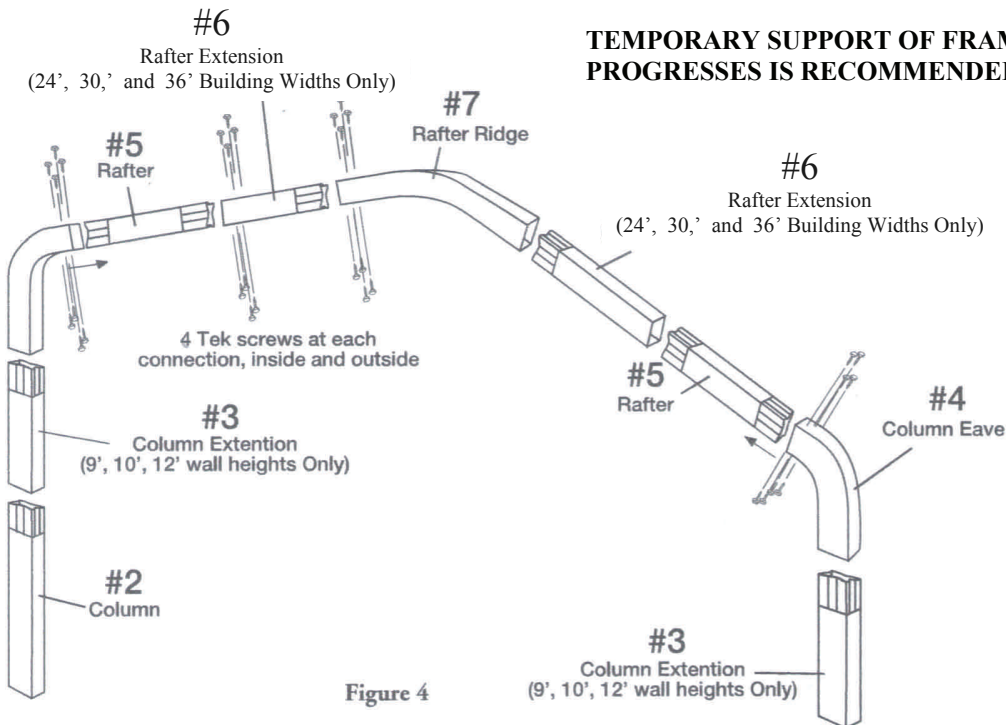

Figure 4
Select two (2) Column sections, two (2) eave corners, two (2) rafter sections and one (1) ridge section and lay them out as shown preparatory to frame assembly. (In each case, a swaged end should abut an open end.) Figure 4.